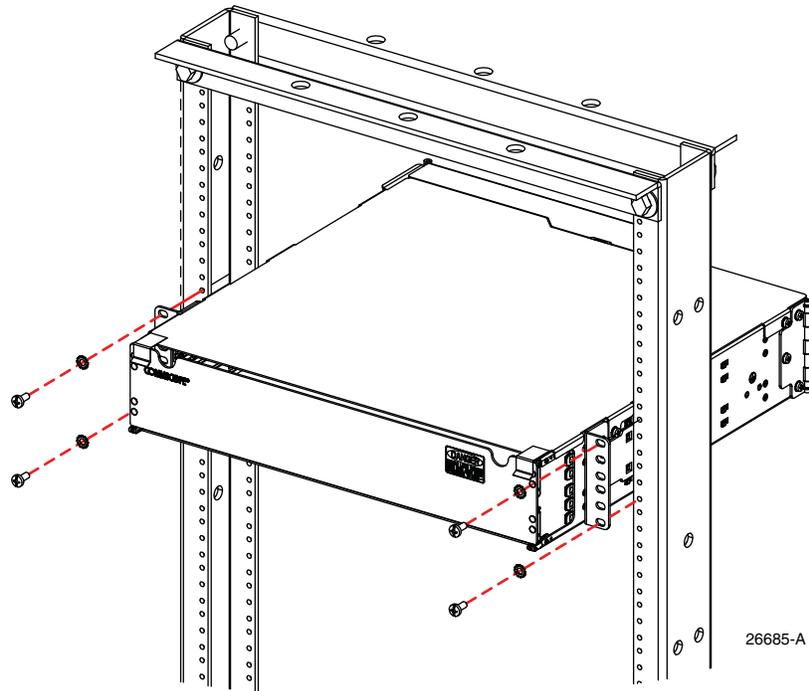

Figure 15. Securing Panel on Rack
- c. Secure the panel to the equipment rack using the required size screws (Figure 15 above). Torque these screws to approximately 27 pound-inches (3.1 Newton meters).